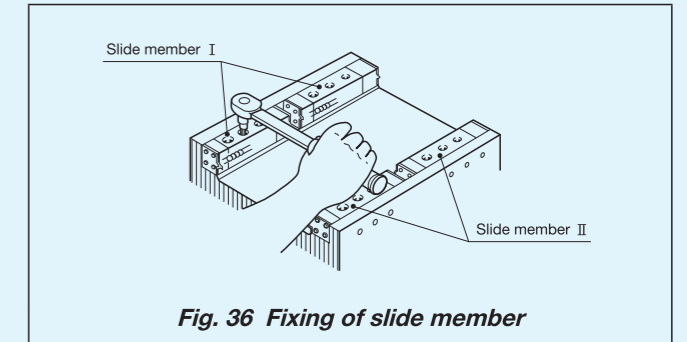

Fig. 36 Fixing of slide member
- Align the reference mounting surface of the slide member I with the reference mounting surface of the table correctly, tighten the fixing bolt to fix them, and temporarily fix the slide member II (see Fig. 36).